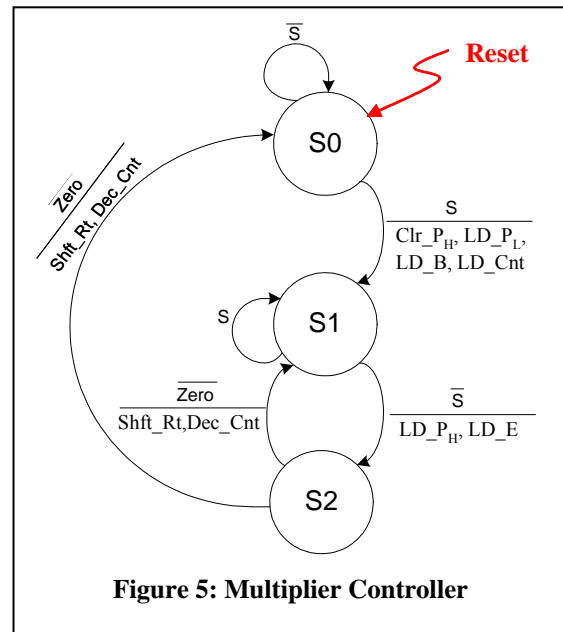

Figure 5: Multiplier Controller
The state diagram of the controller is shown in Figure 5. The controller FSM has 3 states (S0, and S2). The initial state is the reset state S0. state machine stays in the reset state until a *Start* signal “S” is asserted high indicating the availability of new input data. Thus, when S is asserted high, the next clock edge moves the to the second state S1, loads multiplier input (A) into P_L , clears P_H , loads multiplicand (B) into the B-register, and loads the value ‘ $n-1$ ’ ($= 3$) in the down counter “Cnt”.